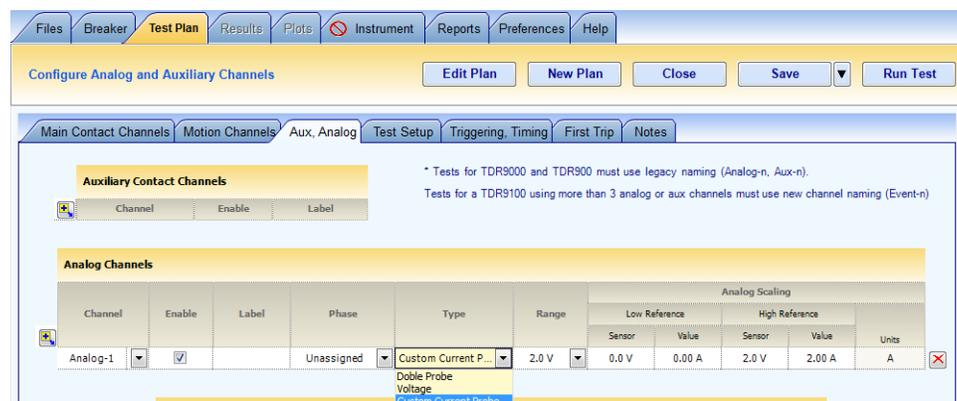

Figure 147 Current Shunt Setting in Analog Channels Table
5. In the Type column, select **Custom Current Probe** (Figure 147).
Figure 147 shows the settings for a current shunt with 2 V for 2 A.